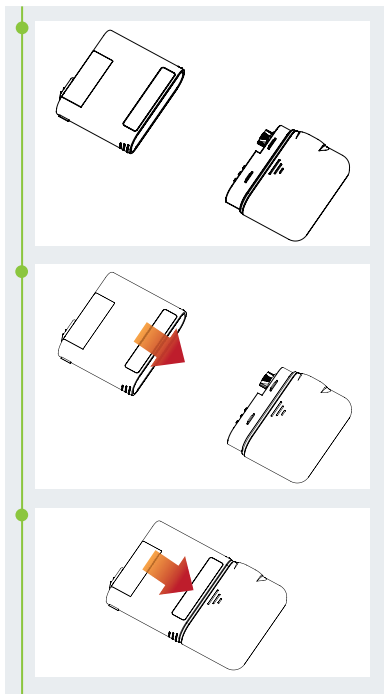

Figure 39
- e) Assemble a filled reservoir and a charged battery to the pump as shown in Figure 39. Press "NEXT" to go to the next page.